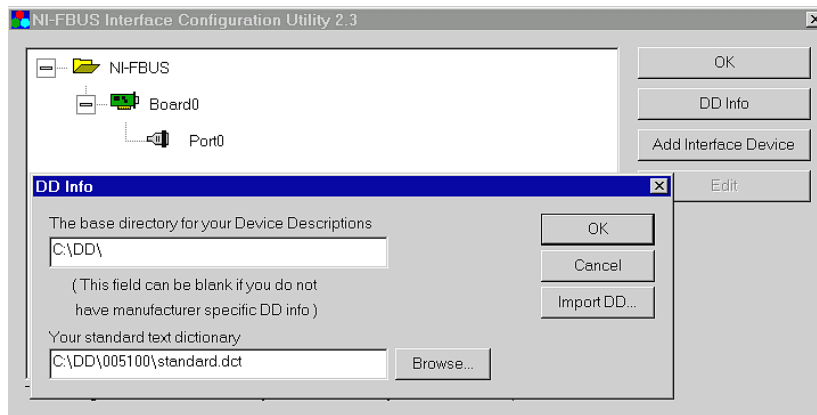

Figure 10-4. Example DD Info Dialog Box with Path to Installed DDs and Standard Dictionary
- Step 9:** When you finish, the DD info box should appear similar to figure 10-4.